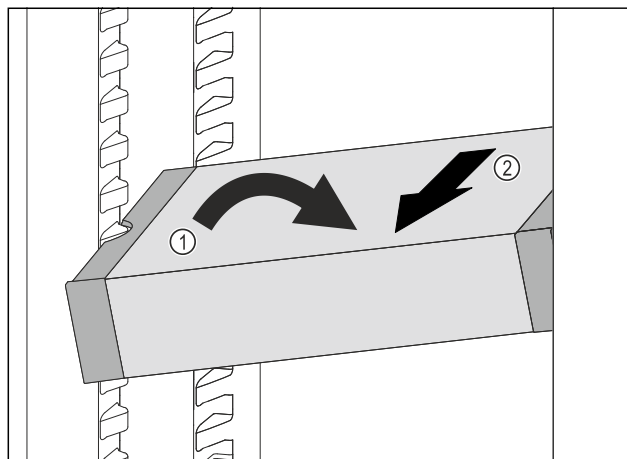

Fig. 133
- ▶ Set VarioSafe in refrigerator compartment at an angle. Fig. 133 (1)
- ▶ Take VarioSafe out to the front. Fig. 133 (2)